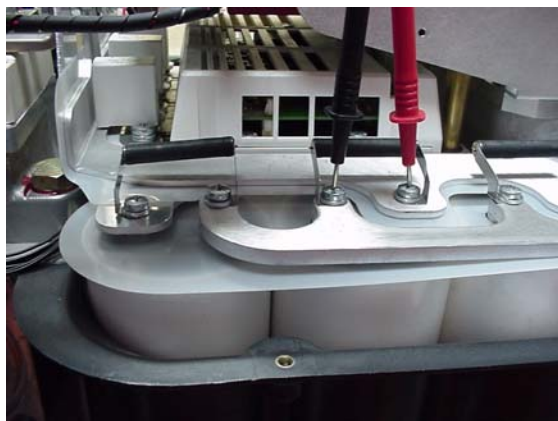

Figure 4-40 Capacitor (+) mid-point voltage measurement
6. Place the black (-) meter probe on the capacitor mid-connection bar, and place the red (+) meter probe on the positive DC bus. See Figure 4-40. The measured voltage range is expected to be half of the DC bus voltage. Refer to Table 4-10.